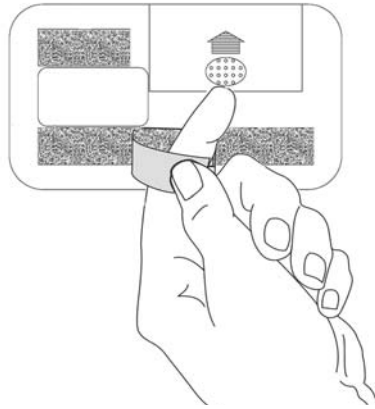

Figure 2 Remove Backing to Expose Adhesive on Dual Lock Strips
- Peel off the double-faced barrier on the Dual Lock strips (Figure 2). Apply the tag to the windshield using moderate pressure.